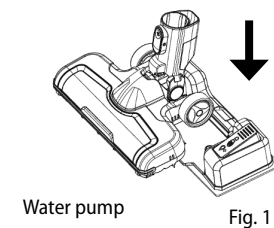

Fig. 1
1. If you also want to mop during vacuuming, place the turbo brush in the water tank (14) and press lightly, you will hear a click (Fig. 1).